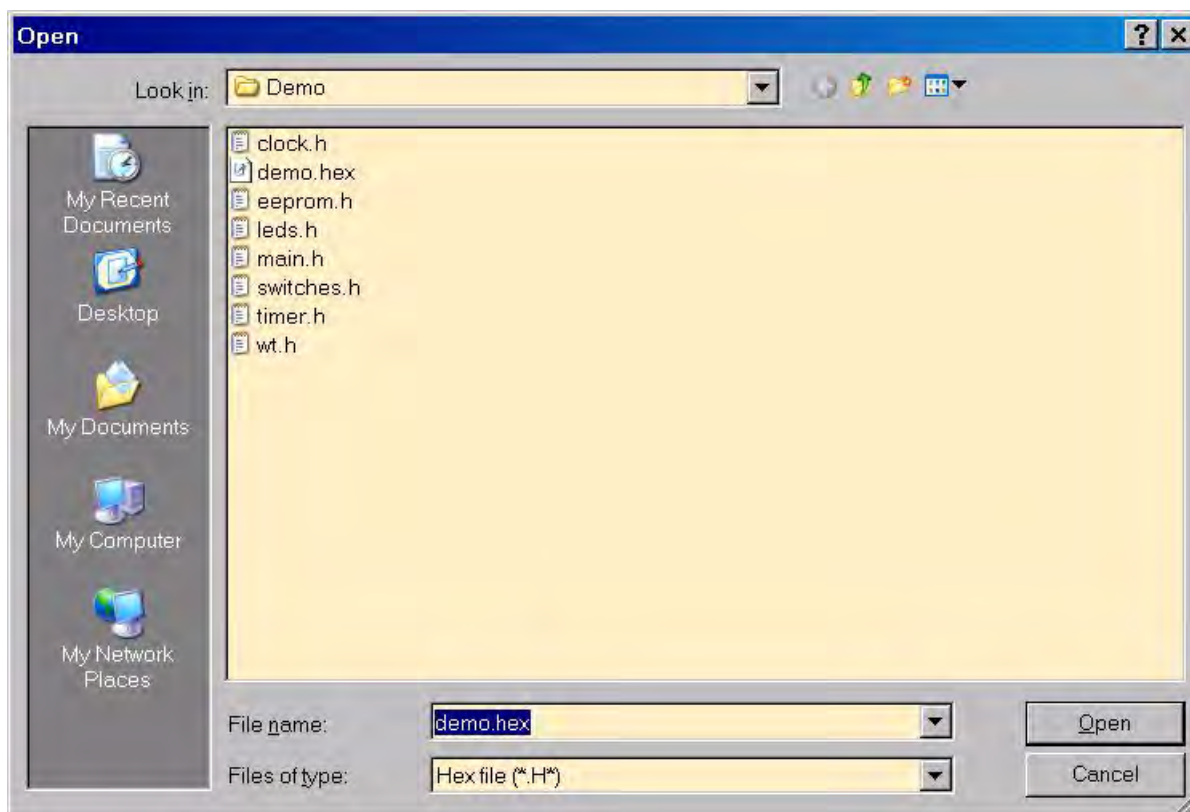

Figure 11. Open File Dialog
3. The **Hex file name** panel, located on the left side of the Object File dialog, displays 16 banks. If you are using the Z8051 MCU's LINEAR ADDRESS Mode, you are not required to select additional banks; LINEAR ADDRESS Mode uses only Bank 0. Click the **Browse** button for Bank 0 to display the Open File dialog shown in Figure 11.